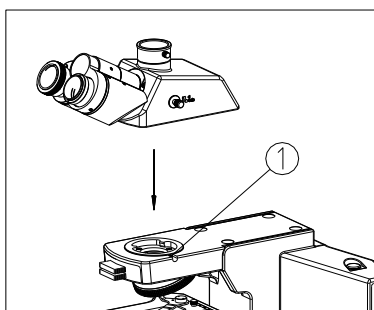

Fig. 7
(1) Loosen the head lock-screw① fully. (See Fig. 7)
(2) From a little right position, insert the coattail interface on the bottom of head into the hole of middle head with a little left inclined. Keep the two eyepiece tubes forward, and then screw down the lock screw①.